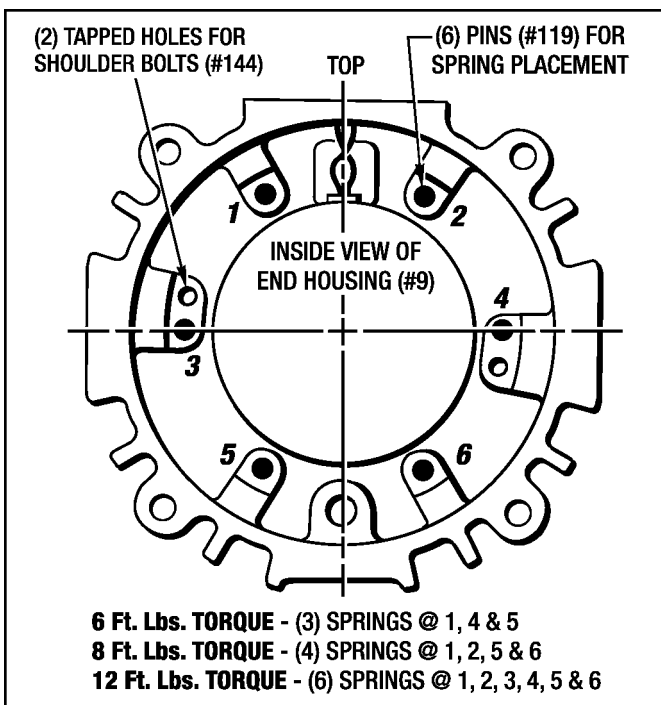

Figure 7.6 - Spring (#36) Placement For MSB2
- Remove the Armature Plate (#56) and the Springs (#36) from the Pins (#119). See Figure 7.6 for spring quantity and location.
6. Set the End Housing (#9) so the Coil (#284) is facing upright. Place the correct number of Springs (#36) into the End Housing. (See Figure 7.6)
7. Set the Armature Plate (#56) and Armature Ring (#58) in position on the Springs (#36). Make sure the (2) holes in the Armature Plate (#56) for the (2) Shoulder Bolts (#144) are aligned with the (2) tapped holes in the End Housing (#9) as shown in Figure 7.6.
8. Install the (2) Shoulder Bolts (#144). Use **Primer T and Blue Loctite #242** on the threads.
9. Insert the (4) Screws (#169) along with (4) Lockwashers (#129) into the End Housing (#9).